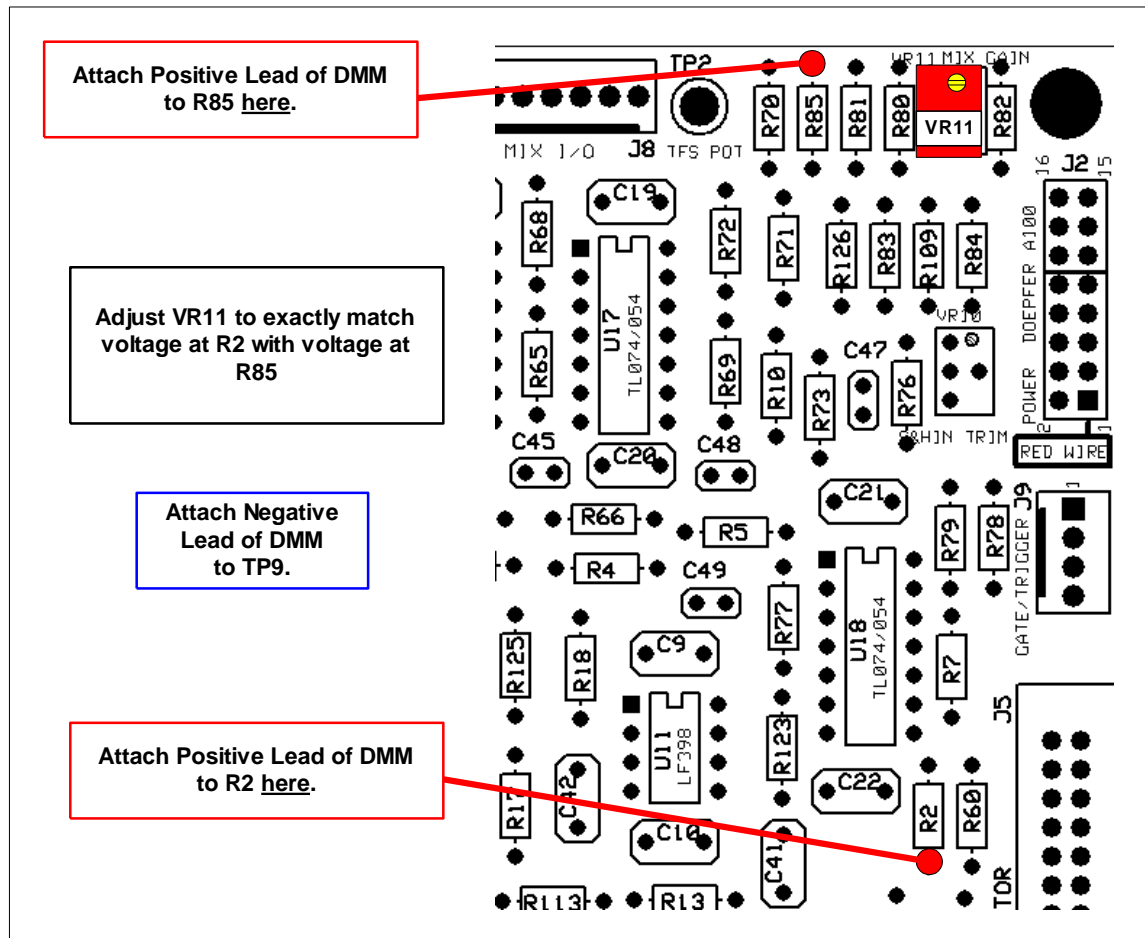

Figure 9-18: Mix Input Unity Gain Calibration
2. Connect the positive lead of the DMM to end of R2 depicted in **Figure 9-18**. Set the DMM to the very lowest range, and measure the voltage present at R2. Adjust the front panel Coarse Offset control (VR105) and Fine Offset control (VR107) for exactly 0V as measured on the DMM. If your DMM is very sensitive, and it's difficult to get exactly 0V (say it's reading a few millivolts or so, record what you do measure here:_____)
5. Connect the positive lead of the DMM to end of R85 depicted in **Figure 9-18**. Measure the voltage present at R85. Record that voltage here: _____
7. Connect the positive lead of the DMM to end of R2 depicted in **Figure 9-18**.